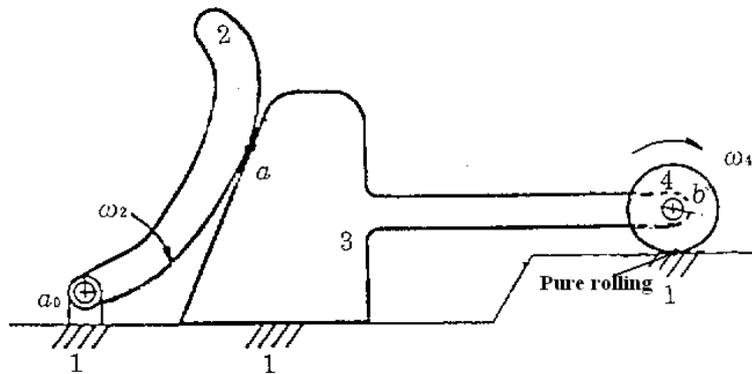

Figure 4 A four-bar linkage
4. Figure 4 shows a four-bar linkage. The angular velocity  $\omega_2 = 2 \text{ rad/s}$  (c.w.) of the input crank (link 2) is given; find the angular velocity of link 4 by using instant centers method. (25%)